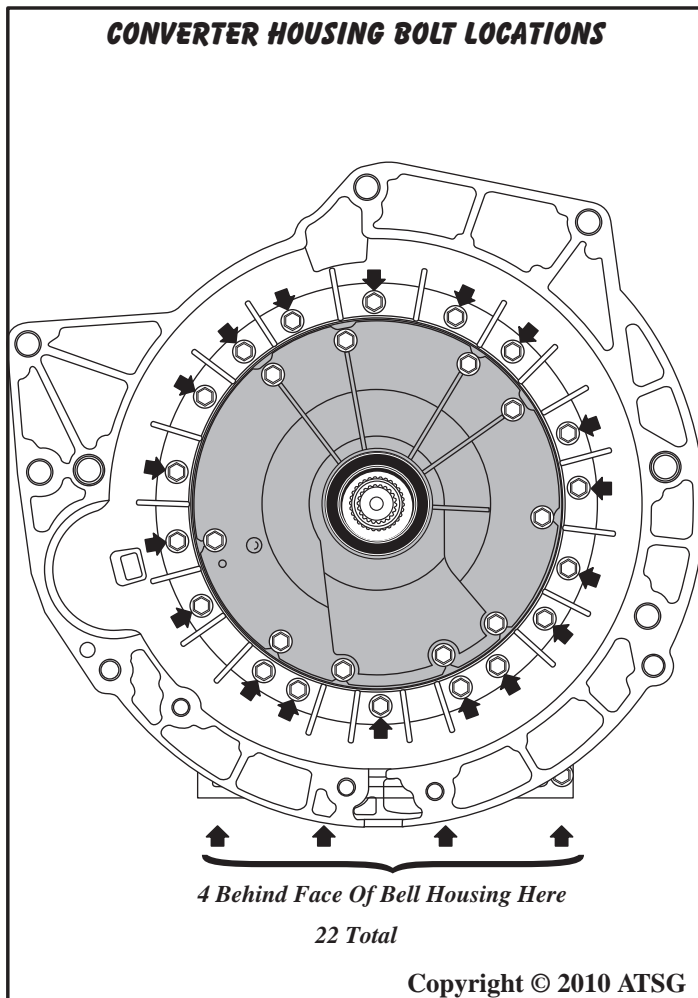

Figure 39
5. Remove the 22 converter housing retaining bolts, which is the outer row, as shown in Figure 39, using a 12 MM socket.
**Note:** Four of the converter housing bolts are behind the face of housing, as shown in Figure 39.